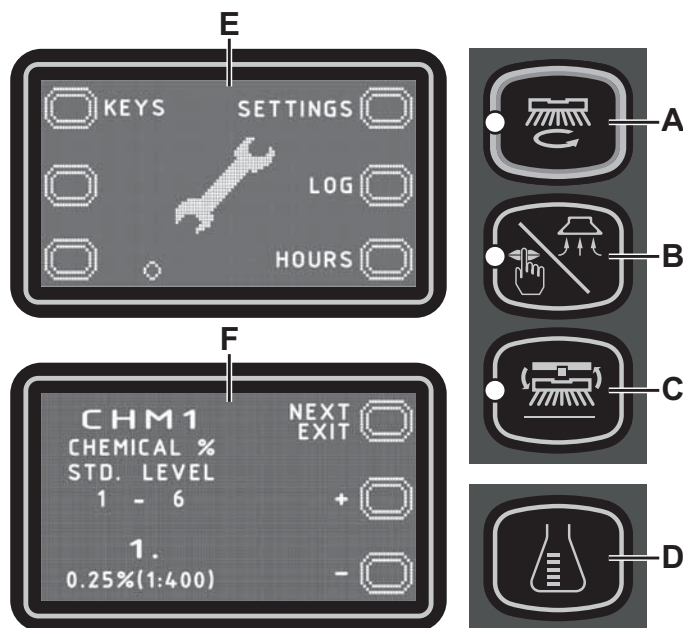

Figure 7
Main Screen (E, Fig. 7)
Machine Settings Screen (F, Fig. 7)
To return to the main screen (E, Fig. 7), press push-button (A) repeatedly.
To return to the main screen (E, Fig. 7), press push-button (A).